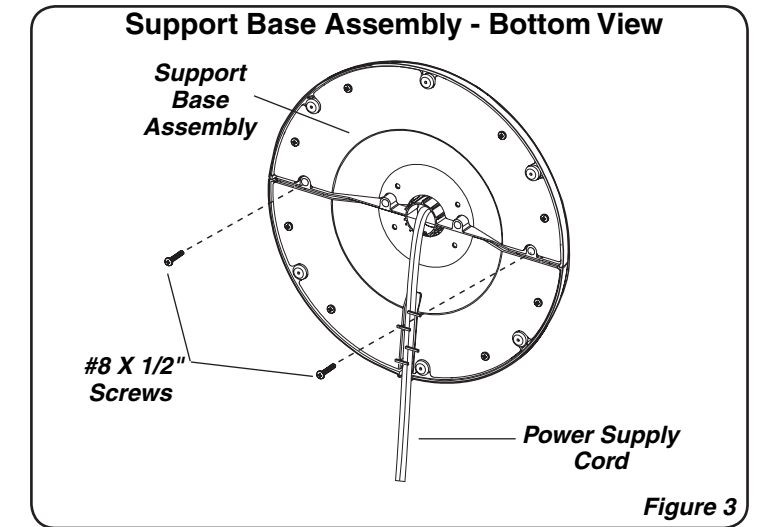

Figure 3
- Secure the (2) **#8 X 1/2" Screws** into the two holes in the bottom of the base. (Figure 3)